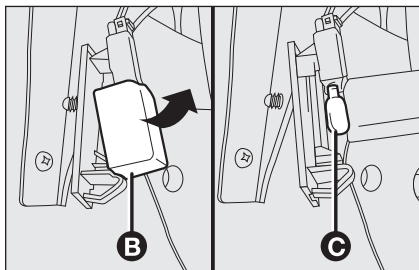

fig. 36
- open the bulb cover **B**-fig. 36 and replace the snap-fitted bulb **C**;